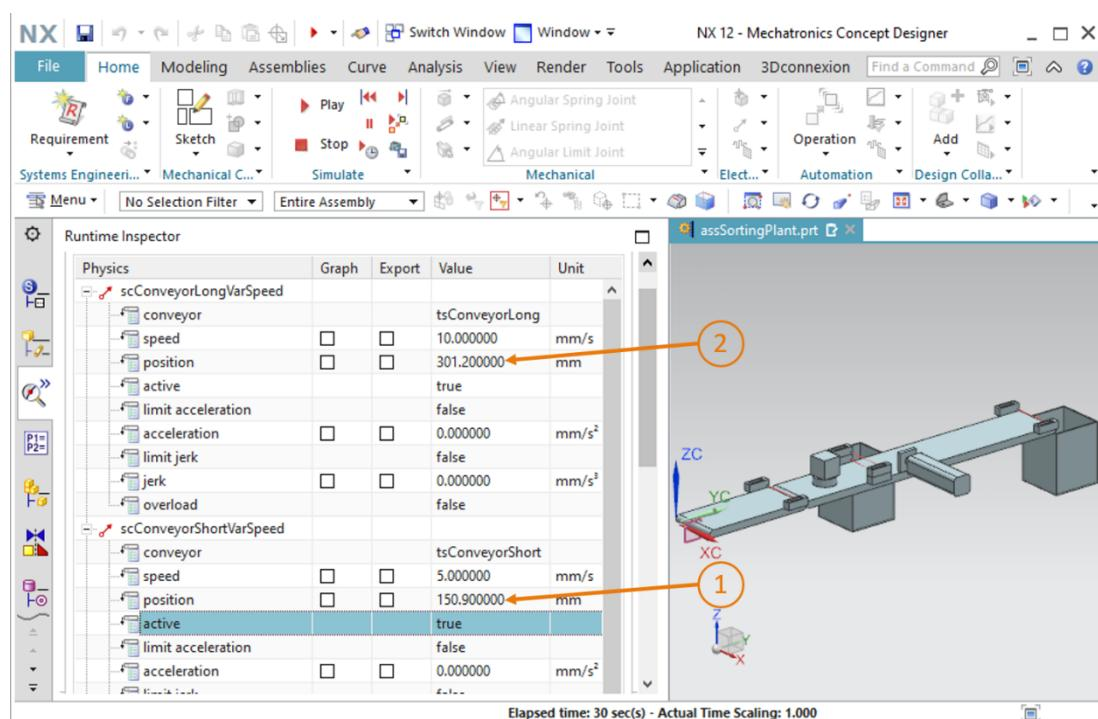

Figure 47: Simulation of the speed controls in MCD
- Specify the "true" value for the **active** signal of the "scConveyorShortVarSpeed" control. The belt now moves at a speed of 5 mm/s, as you have specified for the system. You can also check this in the "position" field, which is highlighted in Figure 47, step 1.
- Test the same behavior with the speed controls of the "conveyorLong" conveyor belt. You can expect a similar result here. Also monitor the position changes in each case, as presented in Figure 47, step 2 by way of example.